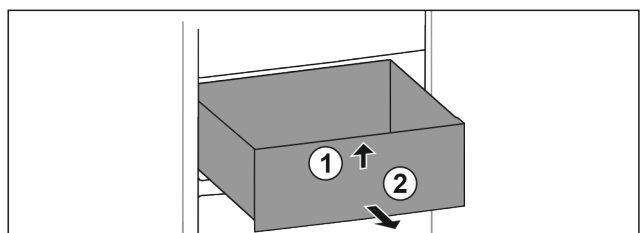

Fig. 70
- ▶ Lift up drawer at the front. Fig. 70 (1)
- ▶ Remove drawer to the front. Fig. 70 (2)